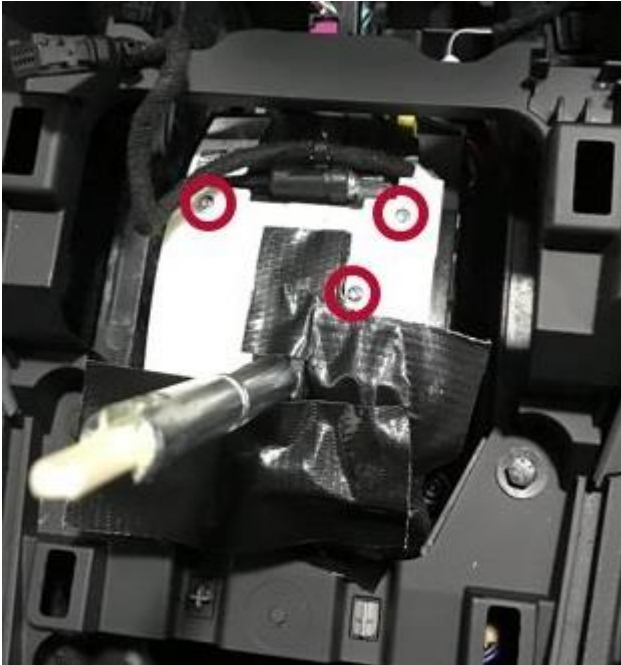
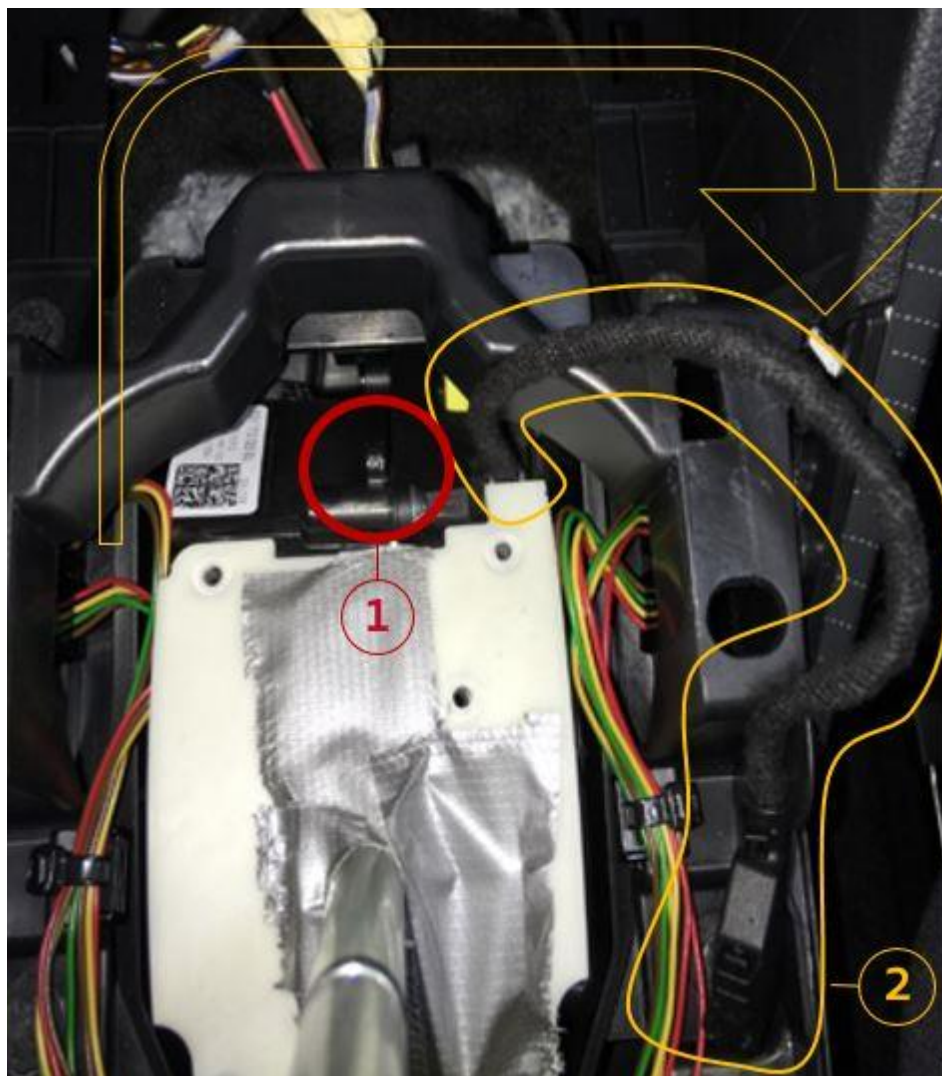

Figure 6. The tape covering shift gate and screw locations.
Figure 7. Display unit Y26 harness repositioning.
5. Tape the opening of the shift gate to protect the module from screws or tools falling into the control module. Tape the opening as shown below while leaving the screws (circled in red) uncovered (Figure 6).
6. Remove the T-9 screws show above (Figure 6) circled in red. You may discard these screws, as they will not be reused. Then move the wiring of the selector lever transmission range position display unit Y26 out of the way to the passenger side as shown below (Figure 7). Remove the harness from the retention clip (Position 1) and set the harness to the side as shown in yellow (Position 2).